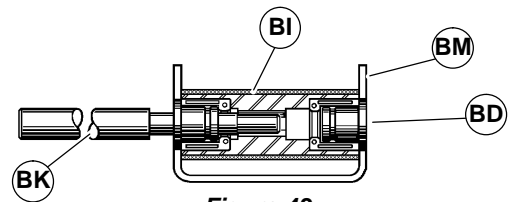

Figure 43
8. Insert sleeve arbor tool (BK of Figure 43) into opposite side of conveyor.